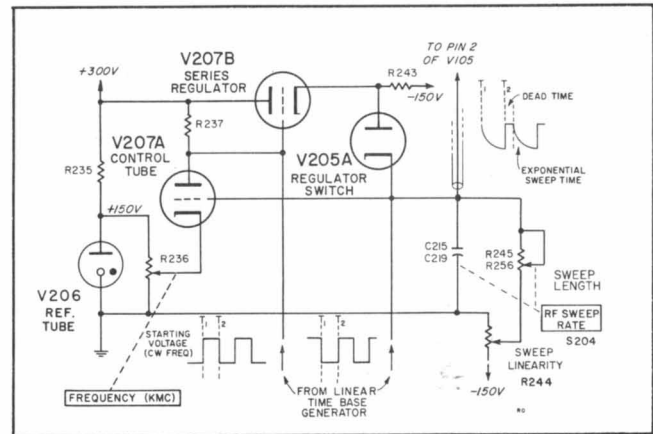

Figure 3-9. Simplified Schematic of Exponential Sweep Circuit
A. REFERENCE VOLTAGE GENERATOR. Basically, the reference voltage generator (figures 3-9 and 4-26) is a typical voltage regulator with a source of reference voltage (regulator tube V206), a control tube (V207A) which compares the reference voltage with a sample of the reference voltage generator output, and a series regulator (V207B). A signal from the control tube controls conduction through the series regulator in such manner that any tendency of the output to deviate from the desired level is compensated for.
B. EXPONENTIAL VOLTAGE GENERATOR. Operation of the exponential voltage generator requires all the circuits shown in figures 3-9 and 4-26. Current for charging the capacitance in the rc circuit